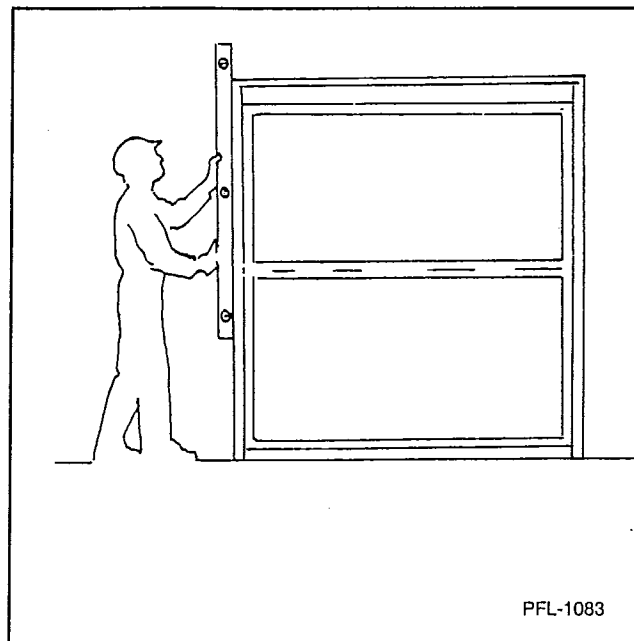

Figure 5
- Plumb the gate using a plumb bob or a four foot or longer level. See Figure 5.